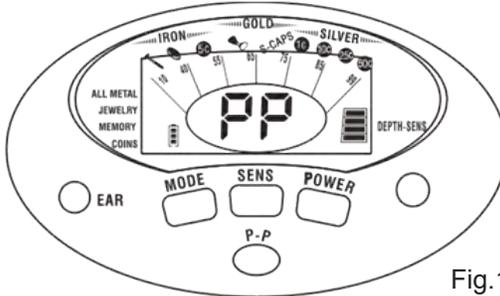

Fig.16
a) Touch the “PINPOINT” button, the PINPOINT cursor is lighted and flashed. The PP cursor won't flash until the detector has been balanced. The target ID cursor in the upper cursor and the target discrimination cursor in the lower cursor are all extinguished, and the depth cursor is full-scale, the detector will sound a slight single-frequency mediant. (See Fig. 16)